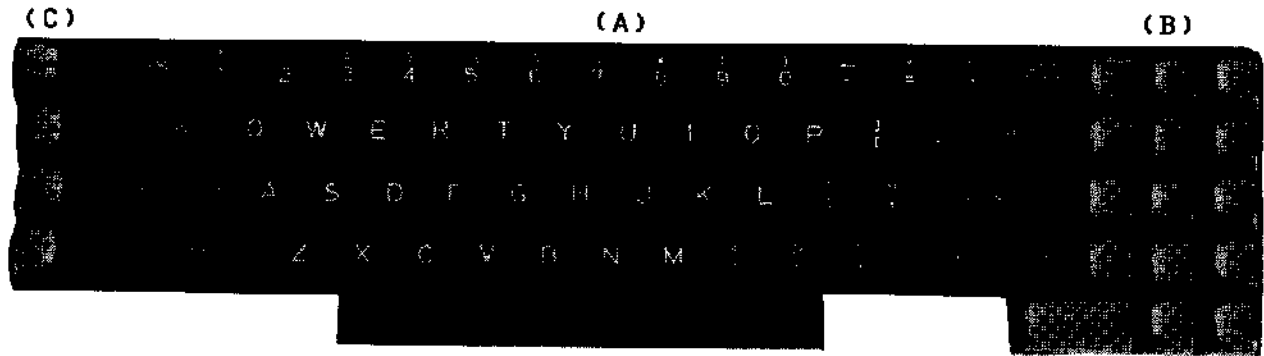

Figure 2-3 Keyboard Layout (Models 5520/5525 Only)
The SPINWRITER keyboard is divided into three sections as shown in Figure 2-3: (A) alphanumeric, (B) numeric, and (C) control.